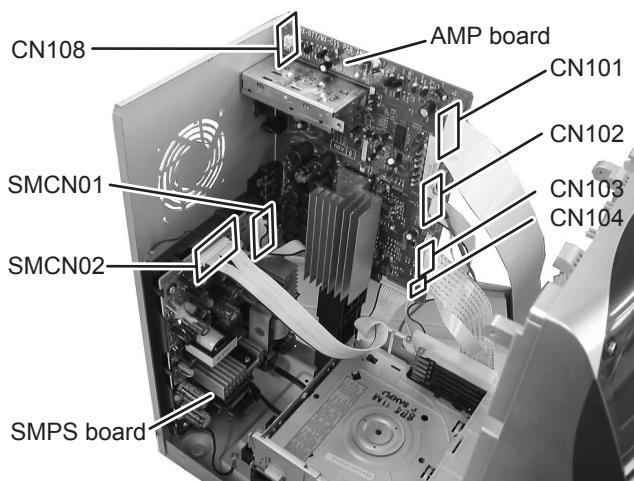

Fig.3
- (2) Remove the connector wire from the connector CN108 of the AMP board. (See Fig.3)
- (3) Take out the fan from the main body.
(See Fig.3 to 5)
- (1) Disconnect the connector wire from the connector CN102 of the AMP board. (See Fig.3)
- (2) Disconnect the card wires from the connectors CN101, CN103, CN104 of the AMP board. (See Fig.3)
- (3) Disconnect the connector wires from the connectors SMCN01, SMCN02 of the SMPS board. (See Fig.3)